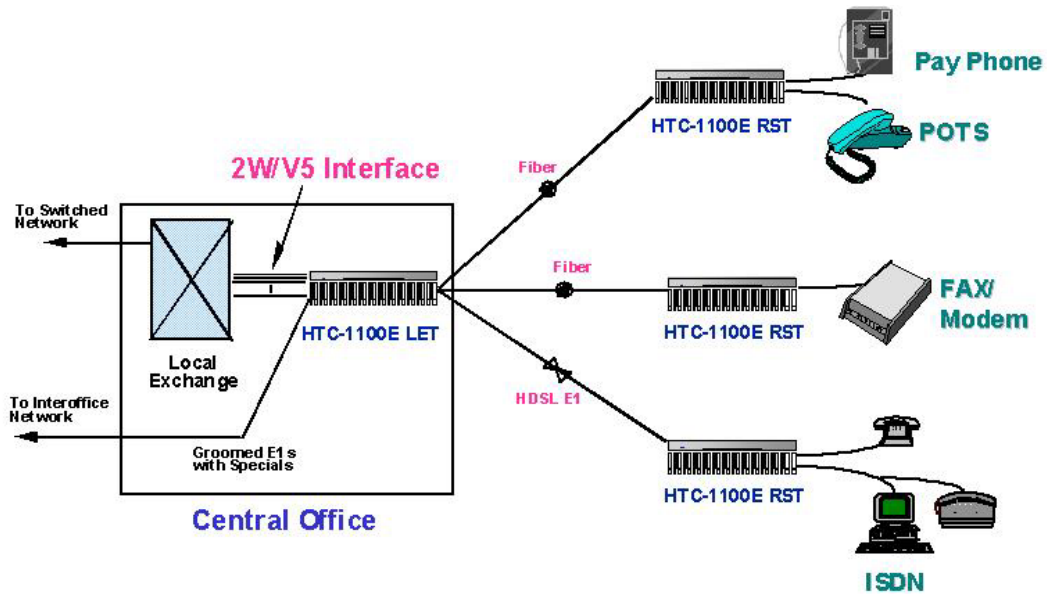

Figure 1-2 Star Configuration
Figure 1-2 shows an example of Star configuration. Up to four (4) RSTs may be homed directly to an LET or to another RST in a Star configuration.